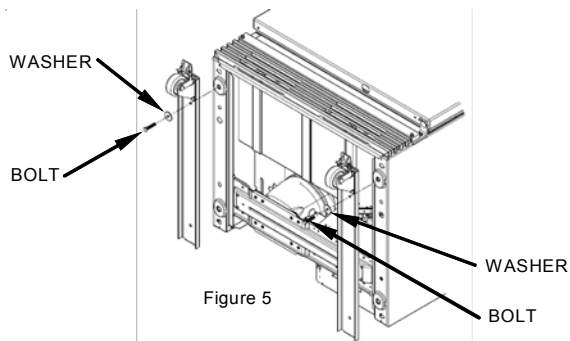

Figure 5
- Align the bolt with the threaded hole in the front right foot pad of the unit. Thread the bolt into the hole until finger tight (see Fig. 5).